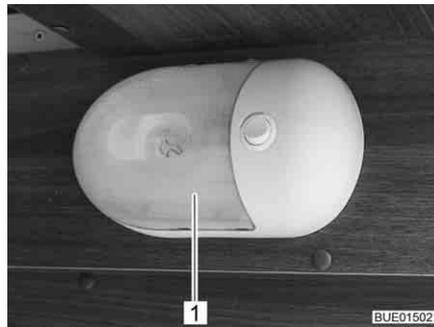

Fig. 226 Surface mounted light
- Carefully push the transparent cover (Fig. 226,1) together from both sides, pull it lightly from the switch and pull it off forwards.